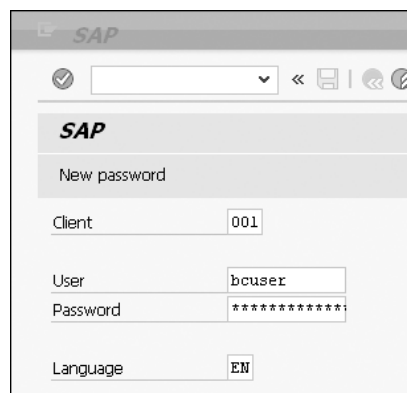

Figure 5.5 Setting the Language Field
- 4 Enter the logon data that you received from your system administrator or trainer in the logon screen. Specify **EN** in the **Language** field (Figure 5.5).